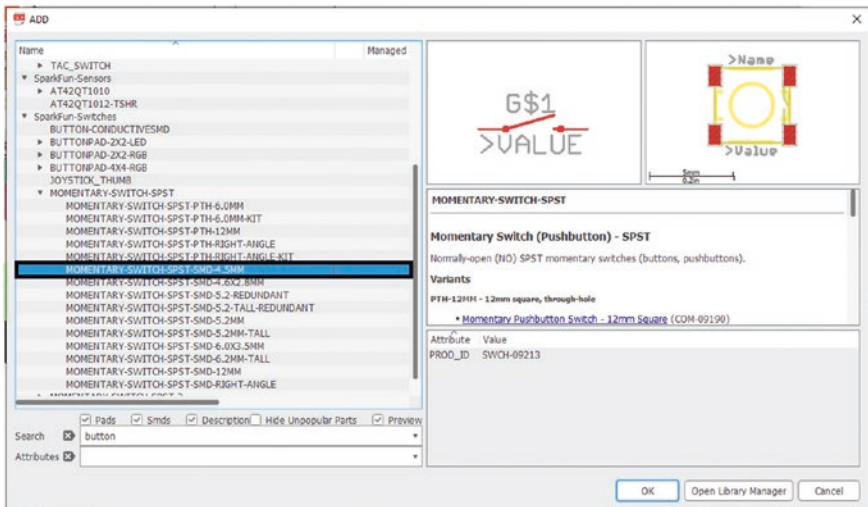

Figure 5-28. Select the Momentary button
15. Scroll down to SparkFun-Switches and locate MOMENTARY-SWITCH-SPST. Then locate MOMENTARY-SWITCH-SPST-SMD-4.5MM and double-click it. See Figure 5-28.